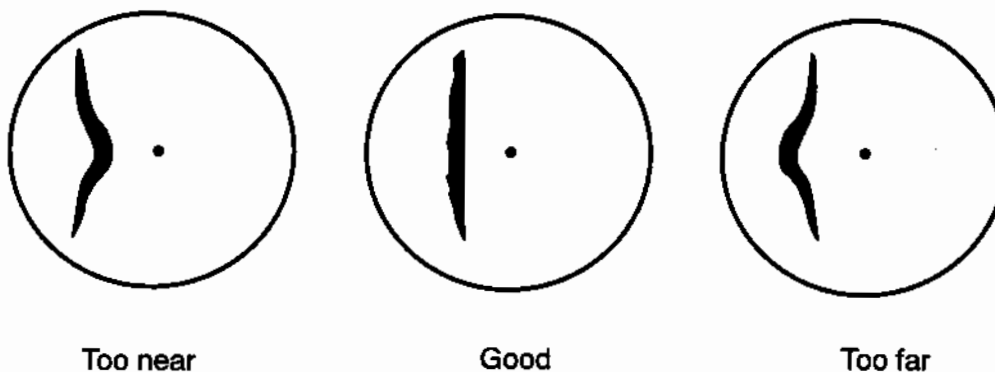

Figure 4.1 Picture display of Trigger Adjustment
- (1) Change the range scale to 0.125 NM by pressing "+" (or "-") key on the transmission display.
- (2) Press [MENU] key, select STARTUP => TX DELAY ADJ => VALUE will show the current setting of the input value by highlighting it.
- (3) Move a joystick up or down to adjust the value to get a straight picture of the straight object in the screen as shown in Figure 4.1.
- (4) Press [ENTER] key to save the adjustment result.